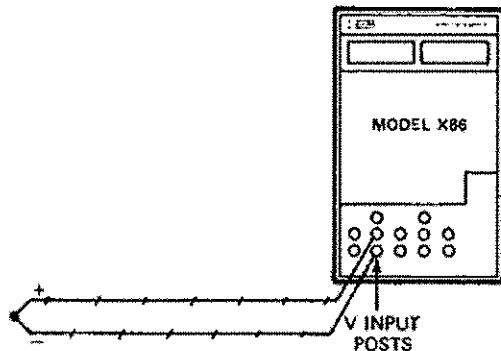

Figure 3-3: Direct Connection of T/C to Model X86 Portable Calibrator
3.2.2 Direct T/C Connection to Calibrator: A T/C may be connected directly to the Model X86 Portable Calibrator as shown in Figure 3-3.